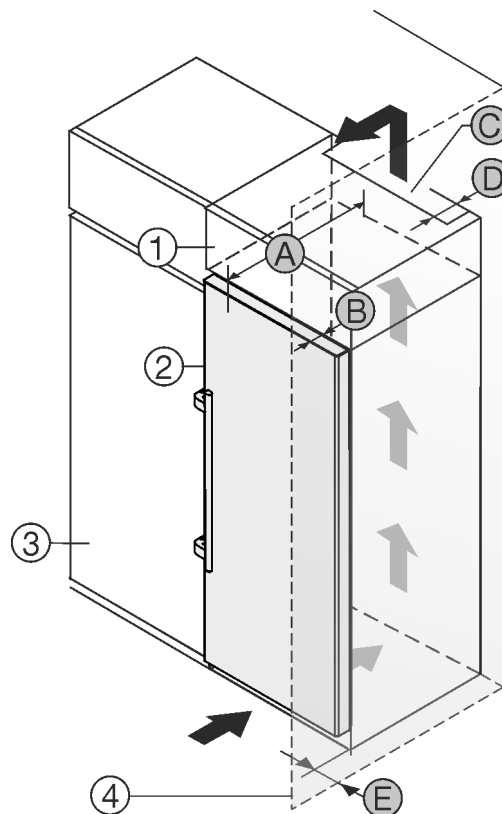

Fig. 1
- (1) Top cabinet
- (2) Appliance
- (3) Kitchen cabinet
- (B) Door depth
- (C) Ventilation cross section
- (D) Distance to the back of the appliance
- (E) Distance to the side of the appliance
- (4) Wall
- (A) Appliance depth
You can place the appliance directly beside the kitchen cabinet Fig. 1 (3).
There must be a ventilation shaft at the depth Fig. 1 (D) of the back of the top cupboard over the entire width of the top cupboard.
The ventilation cross-section Fig. 1 (C) must be maintained under the ceiling.
If the appliance is set up with the hinges next to a wall Fig. 1 (4), the distance between the appliance and the wall must be at least 57 mm. This is how far the handle protrudes when the door is open.
In order to be able to fully open the door, the appliance must protrude by the depth of the door Fig. 1 (B) from the front of the kitchen cabinet. The appliance may protrude further depending on the depth of the kitchen cabinets Fig. 1 (3) and whether wall spacers are used.